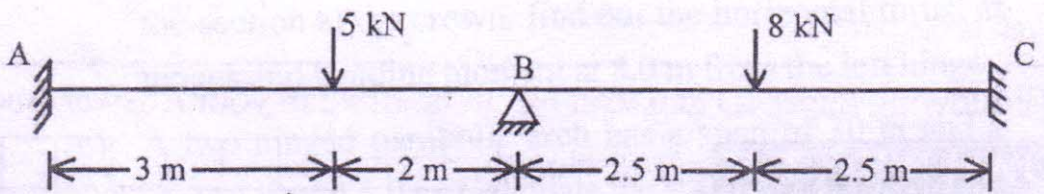

Fig. 2
- (b) A beam ABC, 10 m long, fixed at ends A and C is continuous over joint B and is loaded as shown in Fig. 2. Using the slope deflection method, compute the end moments and plot the bending moment diagram. Also sketch the deflected